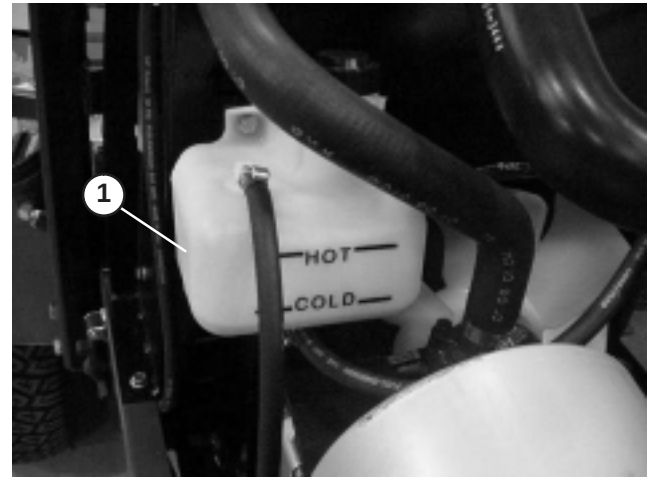

Figure 16
1. Check level of coolant in expansion tank (Fig. 16). Coolant level should be between the marks on side of tank.